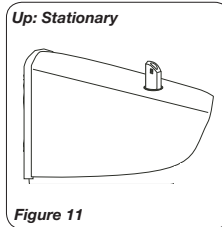

Figure 11
6. **OSCILLATION:** Push down oscillation knob on motor housing to make fan head move from side to side. (**Figures 11 and 12**)